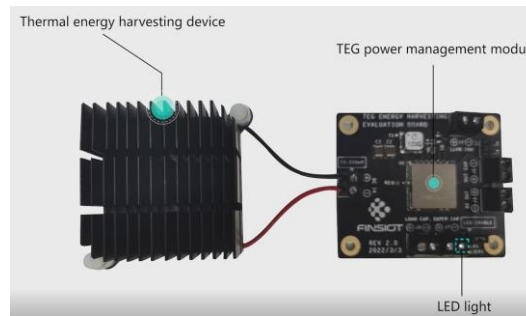

Figure 4
- Prototype using thermal energy (Figure 4) [11]